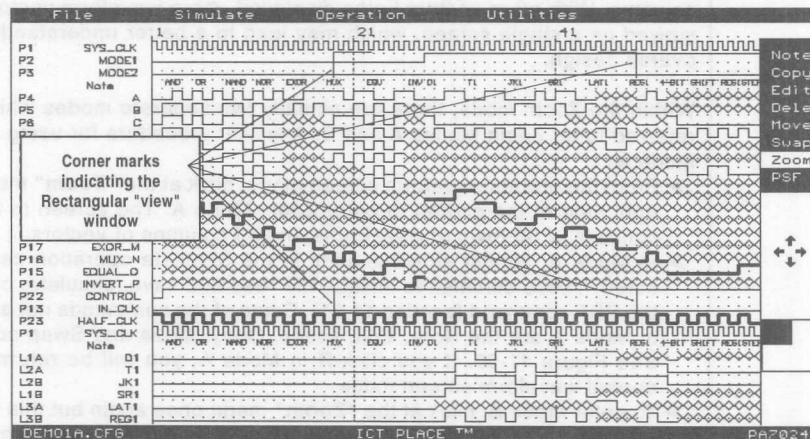

Figure 11-51. Mode B of the "Zoom" waveform screen
- To enter Mode B, click at the **"Zoom"** menu once again but this time don't release the left button of the mouse. A rectangular box depicting a window view of the current selected waveform screen is displayed (Figure 11-51).